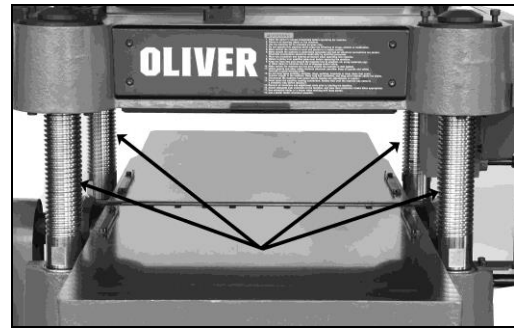

Figure 18
2. Smear a light coating all purpose grease on the four table elevation screws indicated by the arrows in Figure 18 every 3 months.